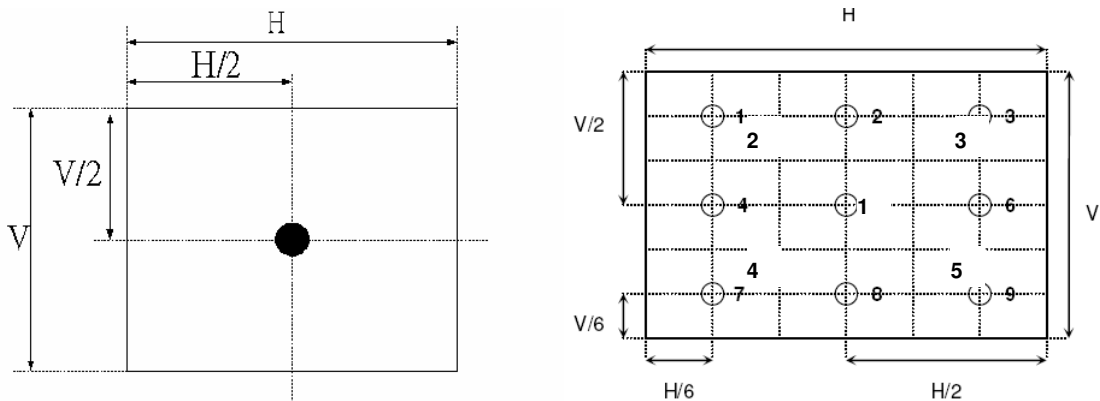

Fig.4-2 Optical measurement point
2. Surface luminance is luminance value at point 1 across the LCD surface 50cm from the surface with all pixels displaying white. From more information see Fig. 4-2. When $V_{DDB} = 24V$, $I_{DDB} = 7.5 A$. $L_{WH} = L_{on1}$, Where L_{on1} is the luminance with all pixels displaying white at center 1 location.